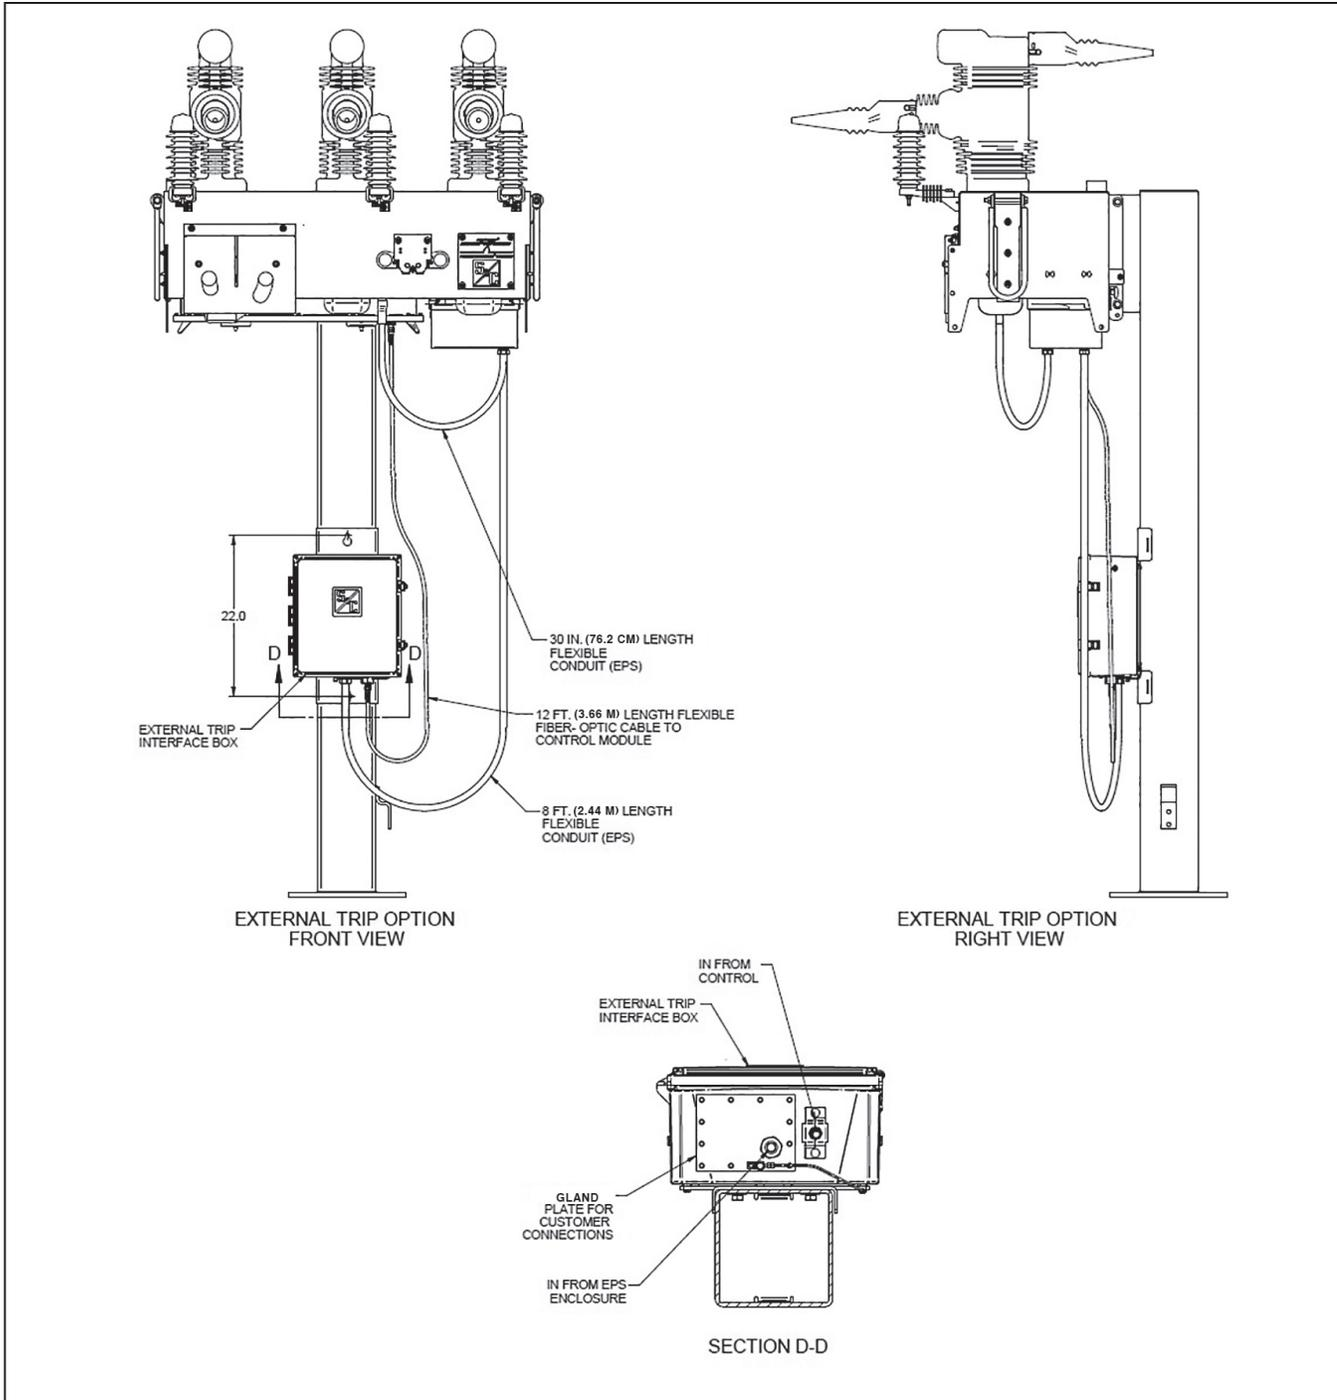

Figure 7. A pedestal-mounted external interface assembly.
STEP 7. Install the conduit for the customer-supplied connections and the external power supply conduit to the external interface assembly. See Figure 7 on page 12.